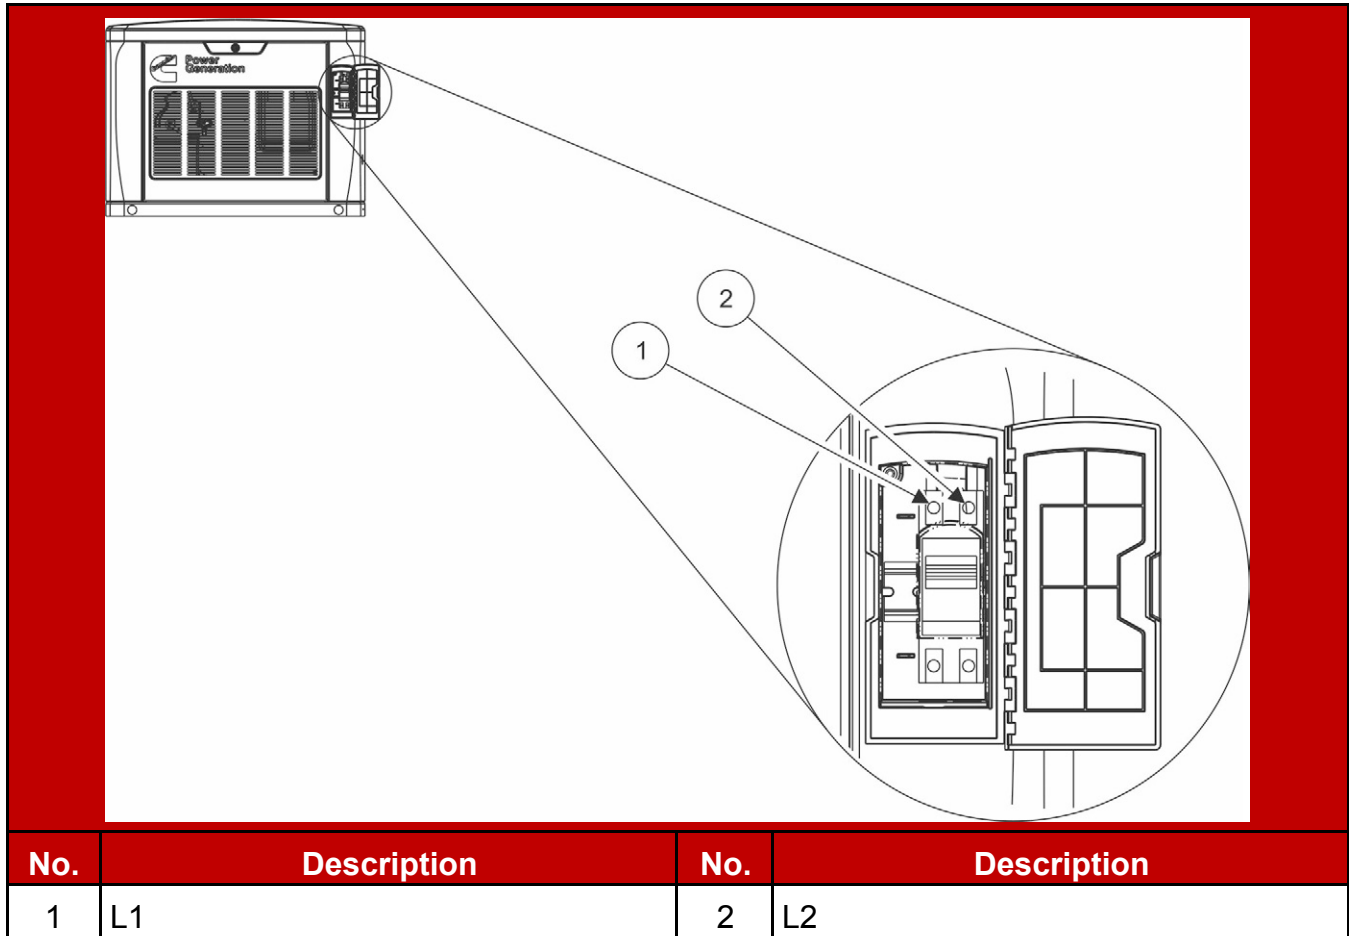

FIGURE 12. CIRCUIT BREAKER AC LOAD CONNECTIONS LOCATION
6. Unless there is no utility source connected to ATS or house loads, remove the bonding jumper from the neutral lug on the back of the circuit breaker box to the equipment grounding lug as shown in Figure 12. Refer to NFPA 70E or CEC.